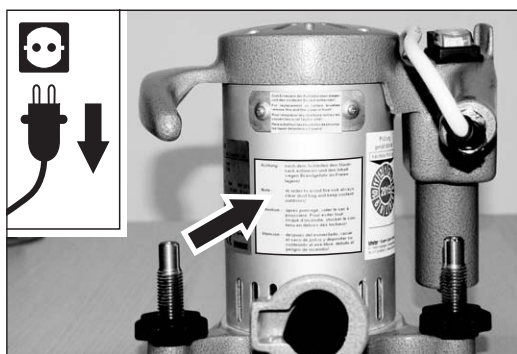

Fig. 29 Note the warning on the motor housing!
- **Note the warning on the motor housing (fig. 29)!**